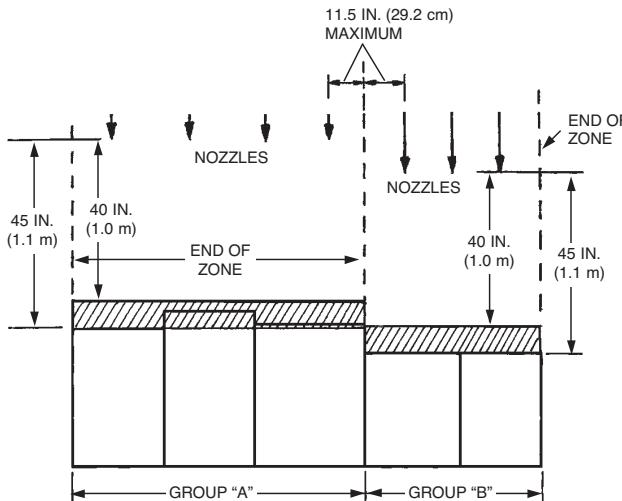

## FIGURE 98
3. When an appliance requires dedicated protection with a protected area intended for overlapping appliance nozzle protection, the group protection option will be required for appliances on either side of the appliances using dedicated protection. Group protection using overlapping appliance nozzles must begin with the protected appliance(s) adjacent to the dedicated appliance protected. An overlapping appliance nozzle(s) must be positioned within 11.5 in. (29.2 cm) of the edge(s) of the appliance hazard surface area(s) adjacent to the dedicated nozzle protection. See Figure 98.